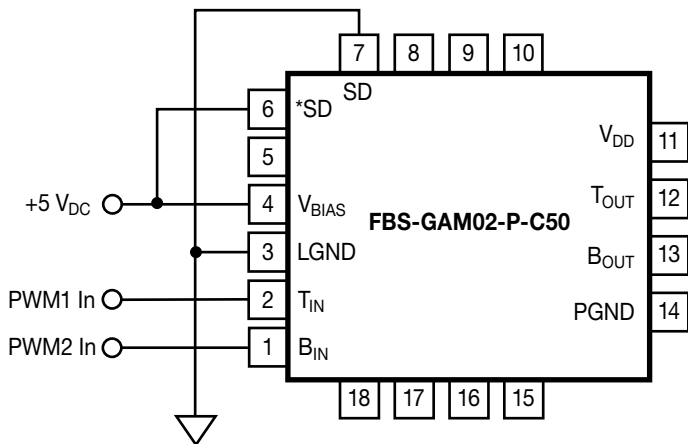

Figure 17. PG Protection Functions Disabled
The FBS-GAM02-P-C50 incorporates a Power Good (PG) sensing circuit that disables both the low- and high-side internal gate drivers when the +5 VDC gate drive bias potential (VBIAS) falls below an under-voltage threshold, typically 4.45 VDC, or rises above a potentially-damaging VBIAS over-voltage threshold level – refer to Figure 5 for the proper operational nomenclature and functionality versus the state of the VBIAS power supply. During the time when the VBIAS potential is outside of the pre-set threshold(s), the PG output (Pin 5) pin is logic low ("0"). Alternatively, when the VBIAS potential is within the pre-set thresholds the PG pin is logic high ("1"). The logic condition of the PG pin may be sensed by a rad hard FPGA or Microcontroller/DSP in-order to determine when the power switches in the FBS-GAM02-P-C50 may be driven with a pulse-width modulated (PWM) input signal(s) at the BIN and TIN logic inputs. If either the under-voltage and over-voltage indication features are not required or desired, then these functions may be disabled separately by connecting the \*SD (Pin 6) pin to VBIAS (pin 4) for the UVLO or the SD pin (Pin 7) to LGND (pin 3) for the 0 VDC indicator, as shown in Figure 17.